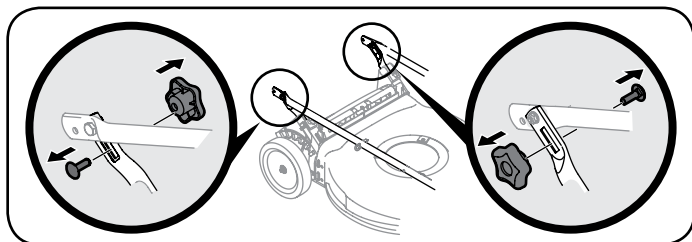
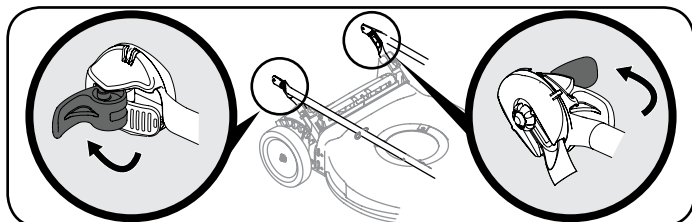

Figure 1
Figure 2
3. Align either side of the slope gauge with the object (See Figure 1 and Figure 2).
4. Adjust gauge up or down until the left corner touches the slope (See Figure 1 and Figure 2).
5. If there is a gap below the gauge, the slope is too steep for safe operation (See Figure 2 above).
2. Perform one of the following according to handles shown in Figure 1 or Figure 2:
- a. Handles with Knob and Carriage Bolts - Remove knob and carriage bolts. Do not loosen or remove adjacent hex head screws. See Figure 1.
- b. EZ-Fold Handles - The EZ-Fold handle release levers are shipped in the unlocked positions. See Figure 2. Proceed to Step 3.